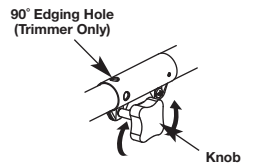

Fig. 3
1. Turn the knob counterclockwise to loosen (Fig. 3).
1. Turn knob counterclockwise to loosen (Fig. 3).
3. Turn the knob clockwise to tighten (Fig. 3).